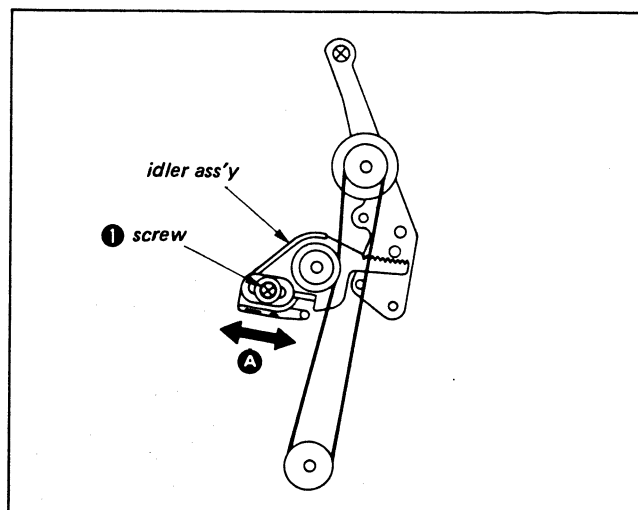

Fig. 3-55.
- i) Loosen screw ① and slide the idler assembly as shown by arrow A, then tighten screw ①. (Fig. 3-55)
- 12) Mount the tension gear (B) and pinch press arm assembly tension coil spring.